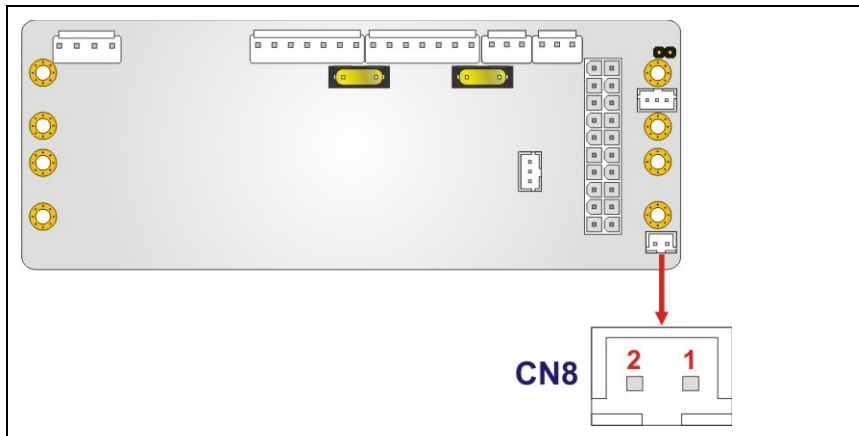

Figure 4-9: Power Switch Connector Locations
- CN Location:** See Figure 4-9